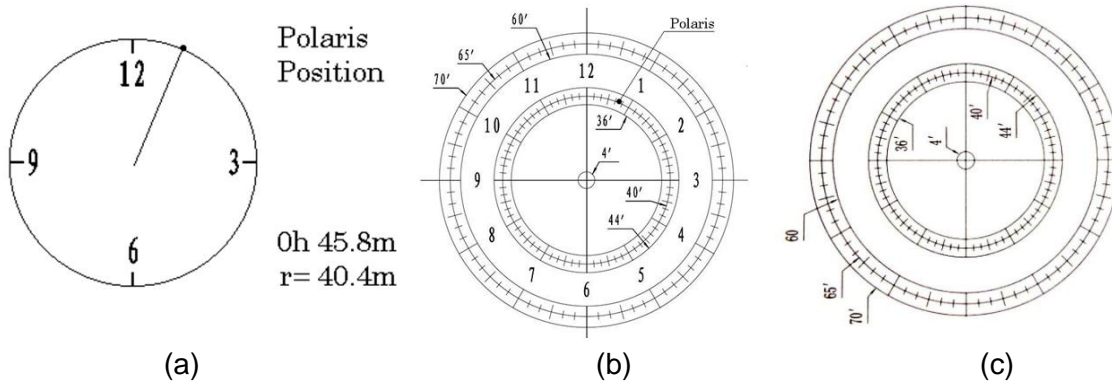

Figure 27. Polaris Position shown on HC (a) and where to put on polar scope reticle (b)
- (5) Look through the polar scope to find the Polaris. Use the Azimuth and Latitude Adjustment Knobs to adjust the mount in both directions and put the Polaris in the same position on the Polar Scope reticle as indicated on the HC display screen. In this case, Polaris will be located at a radius of 40.4 minutes and an angle of 0 hour 45.8 minutes, as shown in Figure 27 (b).
- (6) If the dial ticks are not numbered, any one major tick on top can be assigned as 12 o'clock (Figure 27 (c)).